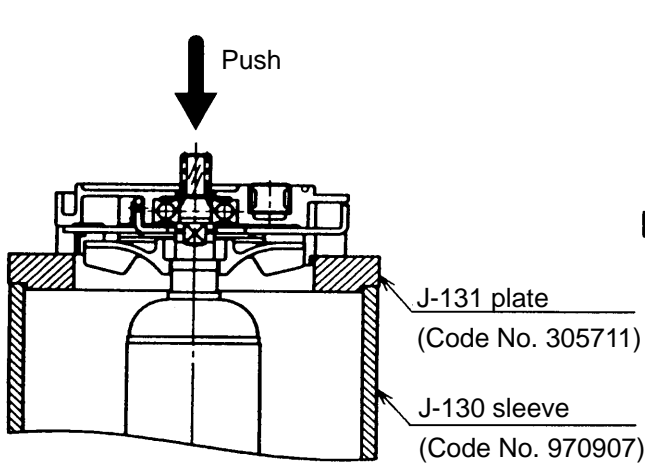

Fig.3
(3) As illustrated in Fig. 3, the Inner Cover **[12]**, and related parts can be removed from the Armature Ass'y **[17]**, and related parts by utilizing a J-130 sleeve (special repair tool, Code No. 970907) and a J-131 plate (special repair tool, Code No. 305711).
(4) The Ball Bearing **[13]** can be removed from the Armature Ass'y **[17]** by utilizing the J-30 bearing puller ass'y (special repair tool, Code No. 970804).